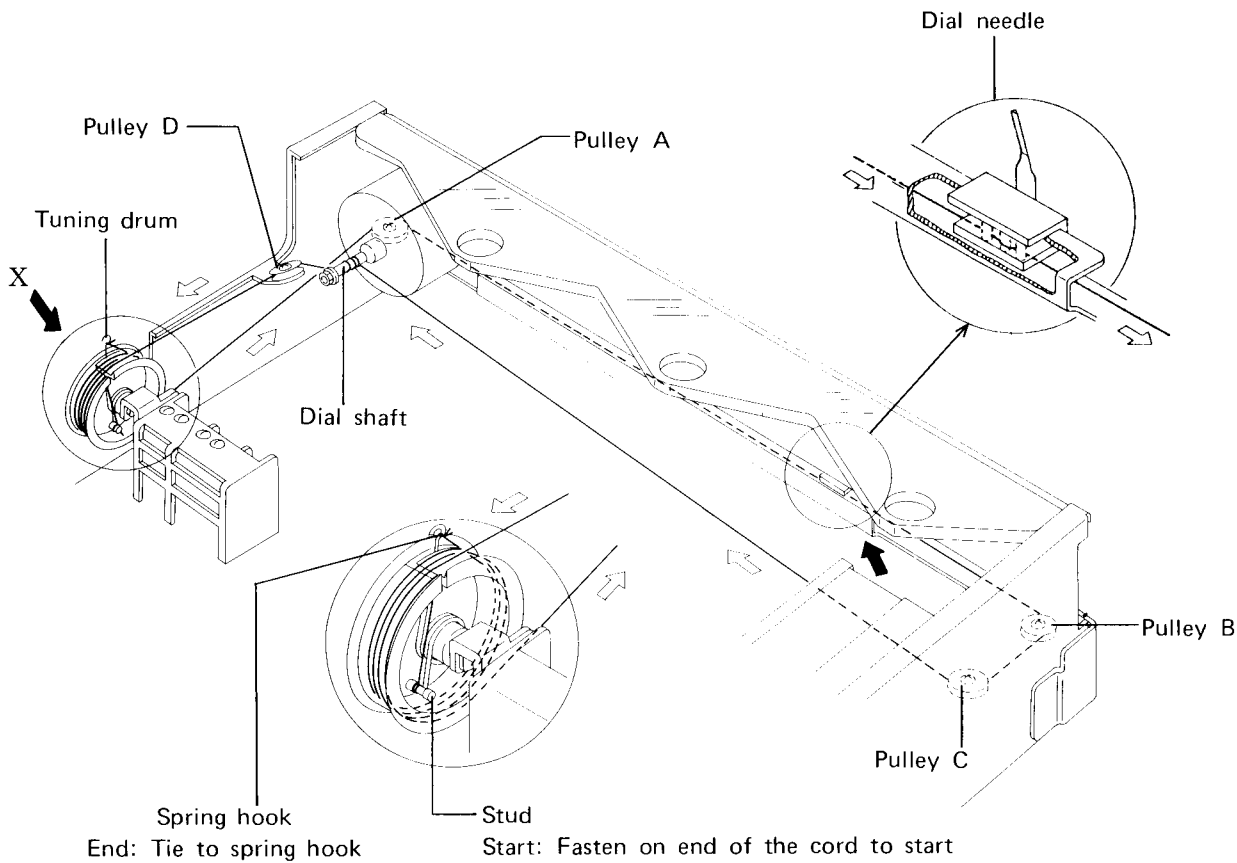

Fig. 13
1. Turn tuning drum fully clockwise (as viewed from X direction in Fig. 13).